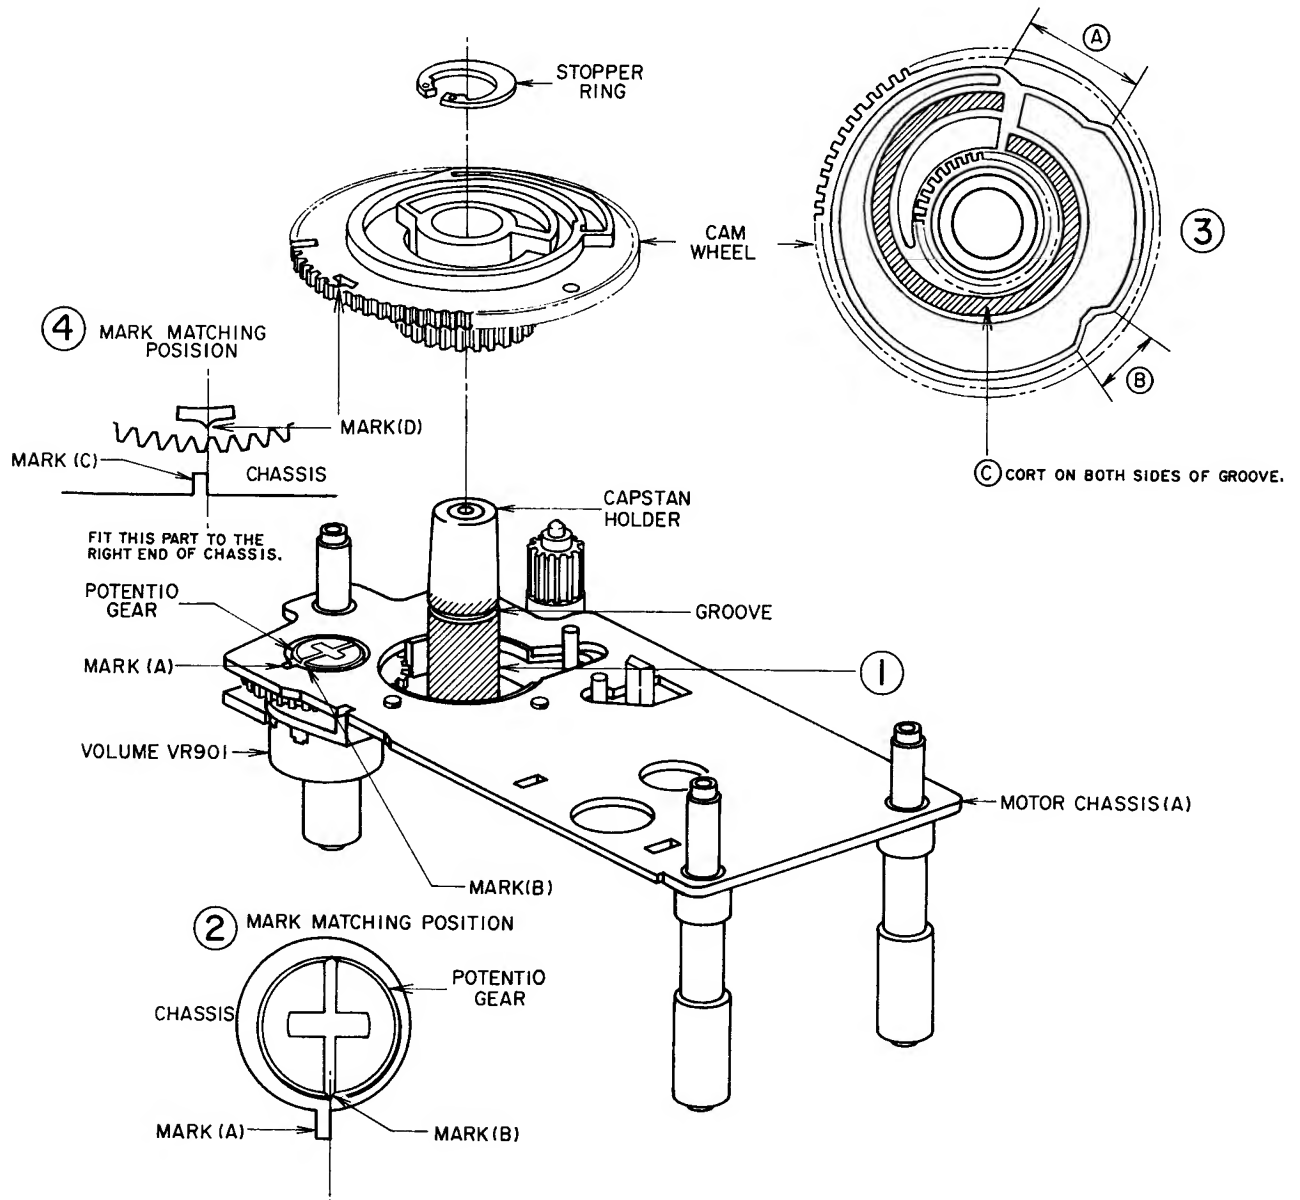

Fig. 7
Apply Molybdenum coat on the area of 360° from the bottom to the upside 2 mm of groove as shown in the figure. (Fig. 7-①)
Fit the right end of Mark (A) to the center of Mark (B) as shown in the figure. (Fig. 7-②)
- 3) Apply Molybdenum coat on A, B and C shown in Fig. 7-③.
meshed properly). When the cam wheel is set properly, fit the center of Mark (D) to the right end of Mark (C). (Fig. 7-④)